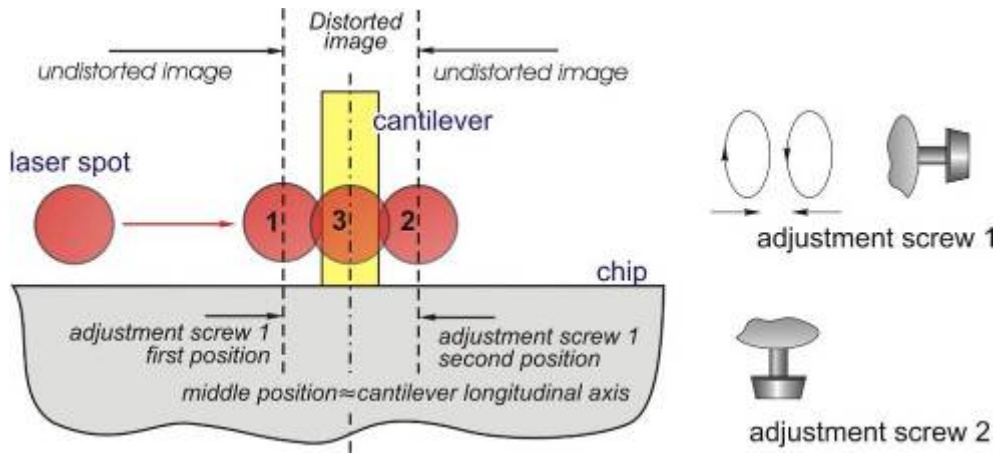
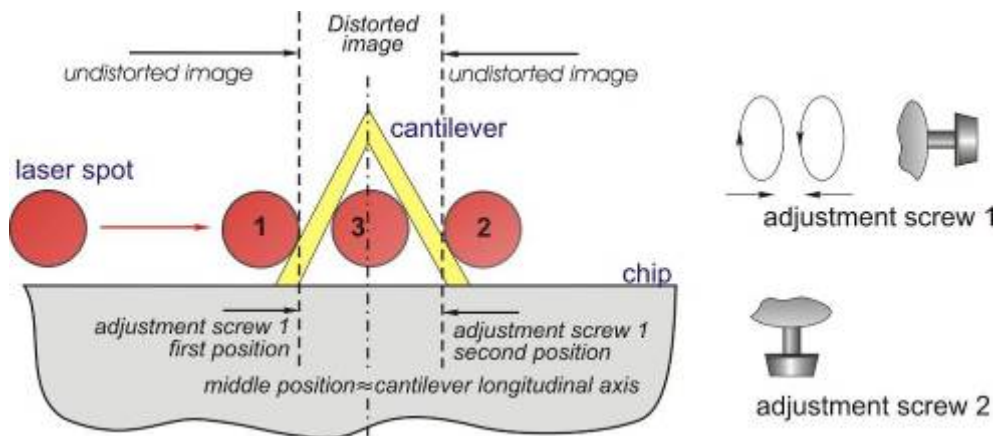

Fig. 2-48
Fig. 2-49
4. If the laser beam passes near the chip front edge, it should be steered onto the cantilever longitudinal axis (Fig. 2-48, Fig. 2-49) by moving the beam laterally with adjustment screw 1 (detailed procedure is given below).
- In the process of travel, the laser image on the paper screen will start to distort at the certain position of adjustment screw 1. This indicates that the laser beam starts to impinge on the cantilever as shown schematically in Fig. 2-48, Fig. 2-49. Memorize this first position of the screw;
- Next, turn adjustment screw 1 into the middle position between the first and the second positions, i.e approx. in the middle of "distortion" range (Fig. 2-48, Fig. 2-49);
- Thus, the laser spot is positioned onto the cantilever longitudinal axis (Fig. 2-48, Fig. 2-49).